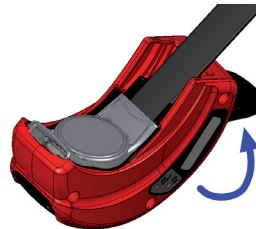

Figure 3
4. Open the Strap Fitting Lever, until you hear a click. **(Figure 3)**
5. Open the strap-fitting-lever until you hear a click. **(Figure 3)**